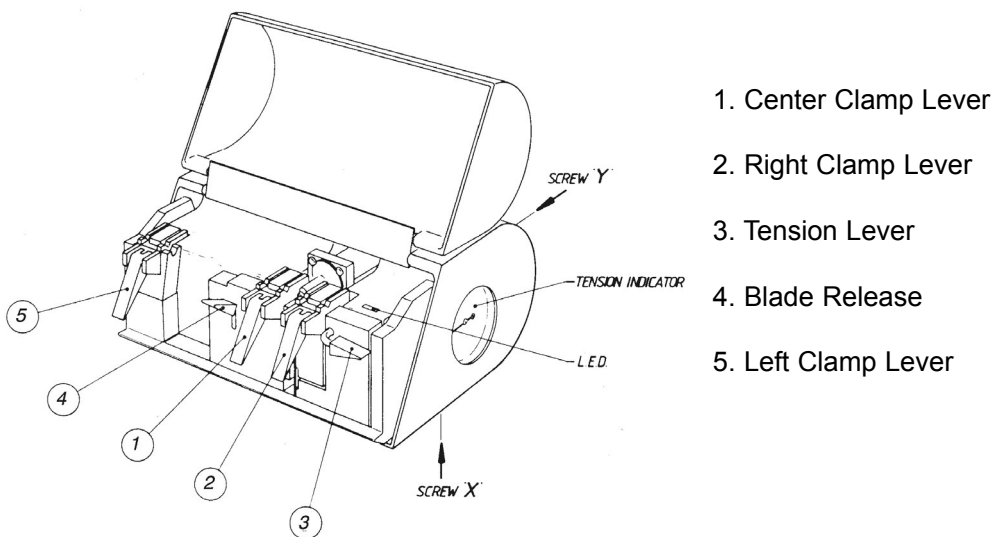

Figure 5: FK11-1 Cleaver (For use with CH-1 and CH-2 fiber holders)
4. Place the fiber holder into the Center clamp (number 1 in Figure 5). Make sure the shoulder of the holder is firmly held against the clamping pad.
6. Position the fiber through the Left Clamp (number 5 in Figure 5), making sure that the fiber rests on the clamp pad. Lower the Clamp Lever to the fully LOCKED position.
8. Move the Tension Lever (number 3 in Figure 5) smoothly downward to the TENSION ON position (for reference, see Figure 4).
10. Raise the Blade Release Lever to the LOCKED (UP) position. Open the left Clamp Lever and then open the center Clamp Lever and remove the fiber holder. Return all levers to their START positions (UP), ready for the next cleave. Remove the off-cut and dispose of it safely.